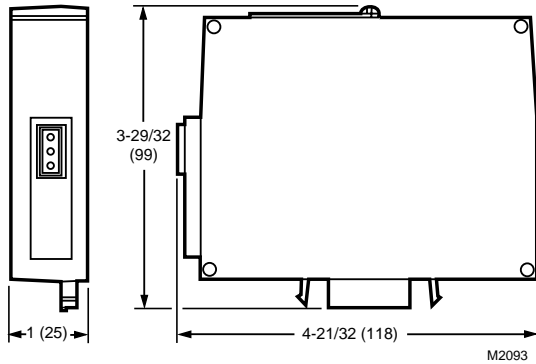

Fig. 1. QS7800A Network Interface ControlBus™ Module dimensions in in. (mm).
**Dimensions:** See Fig. 1.
NOTE: For installation dimensions, see Fig. 1.